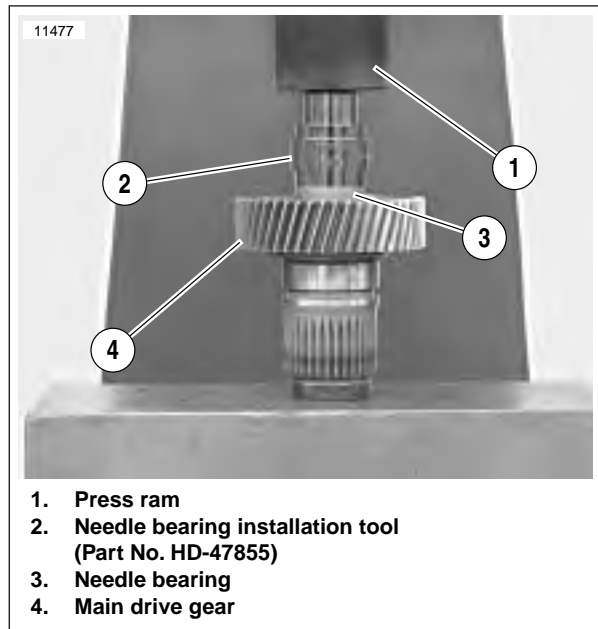
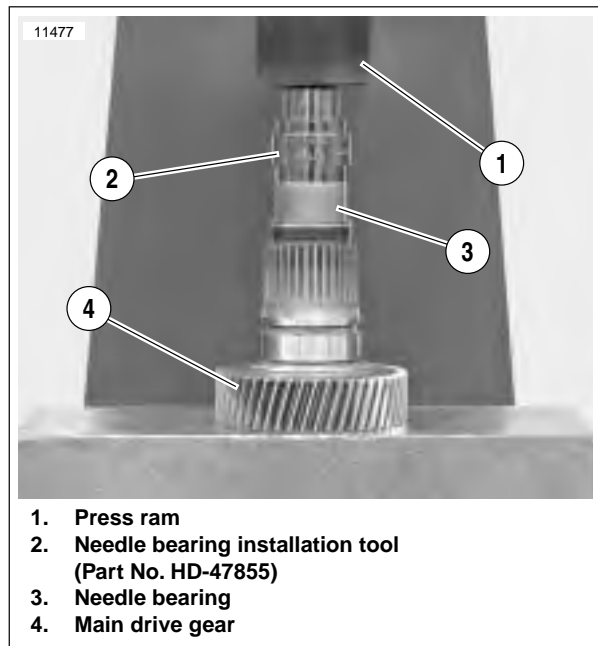

Figure 6-72. Pressing Inner Needle Bearing Assembly into Main Drive Gear
Figure 6-73. Pressing Outer Needle Bearing Assembly into Main Drive Gear
2. See Figure 6-72. Place main drive gear (4) on press bed with gear end facing up.
3. Place needle bearing (3) squarely into end of drive gear. Insert installation tool (2) with end stamped "INNER" facing needle bearing.
6. See Figure 6-73. Place main drive gear (4) on press bed with gear end facing down.
7. Place needle bearing (3) squarely into end of gear. Insert installation tool (2) with end stamped "OUTER" facing needle bearing.